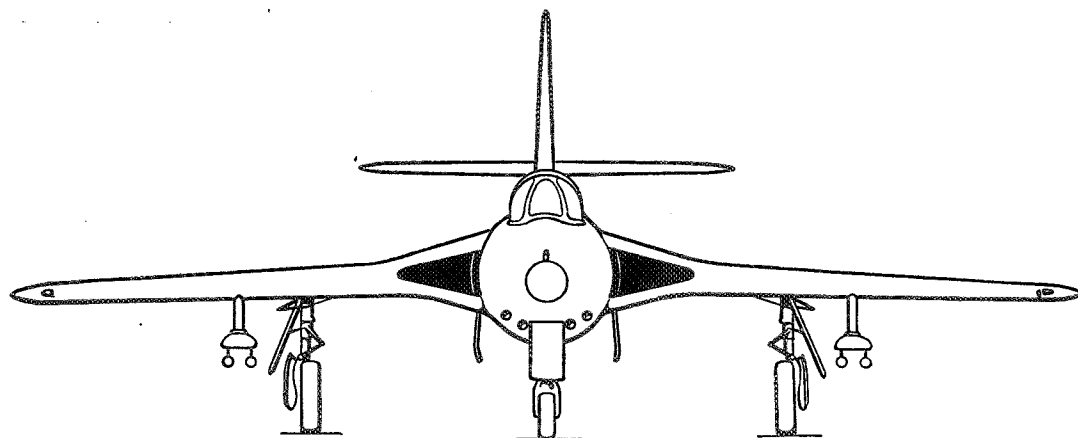

Fig. 2. Bomb installation (3)
- (4) Remove the access panels concerning the release unit crutching nut on top of the wing and open the panel giving access to the NORMAL/PRACTICE switch in the pylon (Sect. 2, Chap. 4, fig. 2).